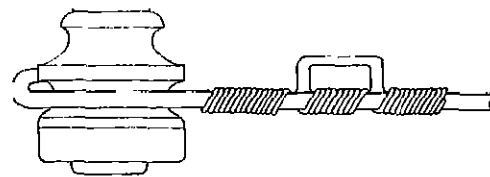

Fig. 11.3(d) Binding of Conductor
- (xii) Bind the binding wire after the small bend also and complete the binding by using both ends of the binding wire as shown in Fig. 11.3(d).